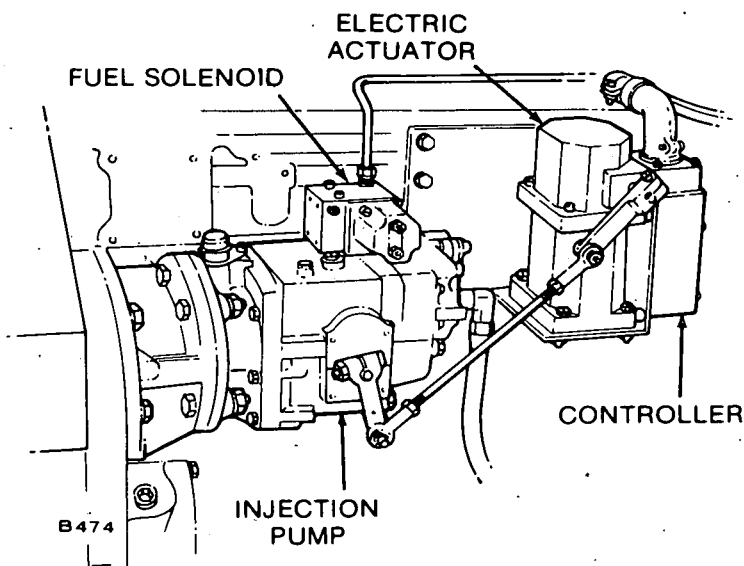

FIGURE 24. FUEL SOLENOID VALVE LOCATION
5. Disconnect wire from fuel solenoid valve (Figure 24), close throttle and crank engine while maintaining an external prime pressure of 15 psi (103 kPa), for 15 seconds.